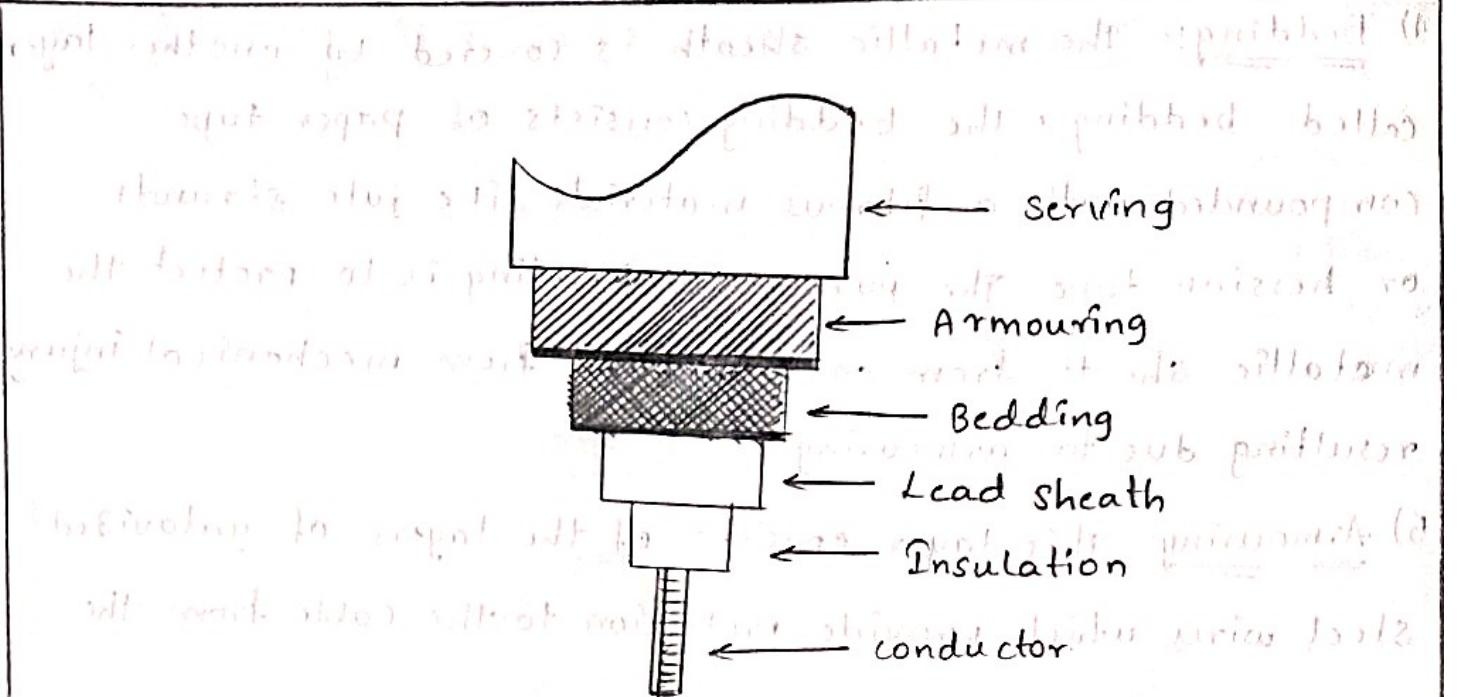

Fig. 8.12.1 General construction of a cable.
* The fig. 8.12.1 shows the general construction of a cable. The cable shows is single conductor underground cable - (A) Its various parts are,